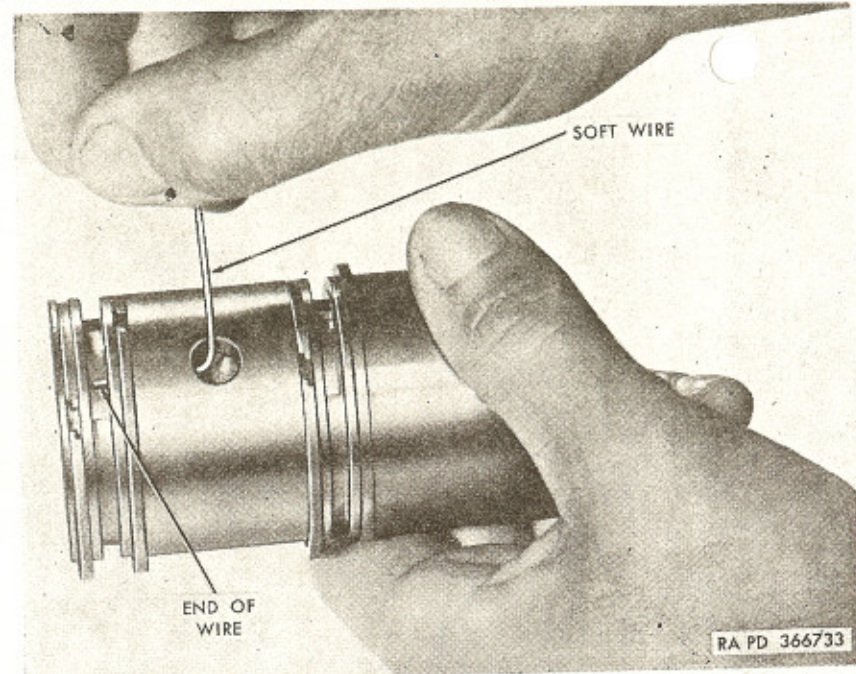

Figure 121. Checking and cleaning passages in front clutch oil delivery sleeve assembly.
- (e) Check rear band strut screw (M) on rear band for alignment and free pivoting. Make sure strut turns freely on strut screw.
(2) *Front clutch oil delivery sleeve assembly (G).*
- (c) Insert end of soft wire (fig. 121) through both oil delivery sleeve holes to check for open passages into opening between oil seal ring grooves. End of wire must protrude through cored passage as shown.
2. Install center bearing cap assembly (H) with dowel in one of the two oil holes in delivery sleeve.
3. Install center bearing cap bolts (K) and tighten firmly.